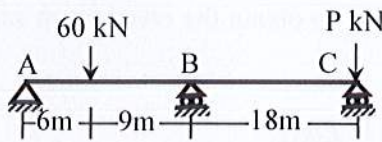

Fig.1
1. Analyze the Beam in **Fig.1** using Force Method and find the reactions, where P is 20 kN, if the Roll is even or P is 30 kN, if the Roll is odd. Consider the Reaction at C as Redundant. [12]